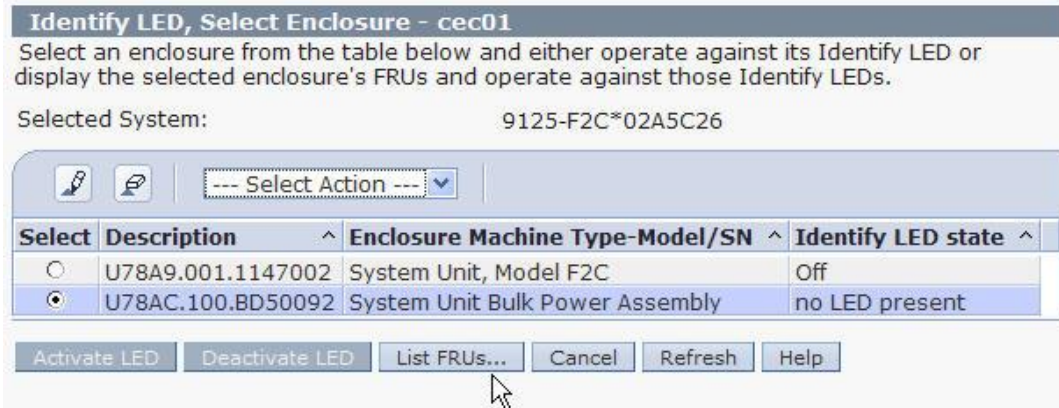

Figure 3 Identify LED, Select Enclosure Window
- STEP 5 In the window titled **Identify LED, Select Enclosure** *select* **System Unit Bulk Power Assembly** then *click* the **List FRUs...** button (see Figure 3 Identify LED, Select Enclosure Window).